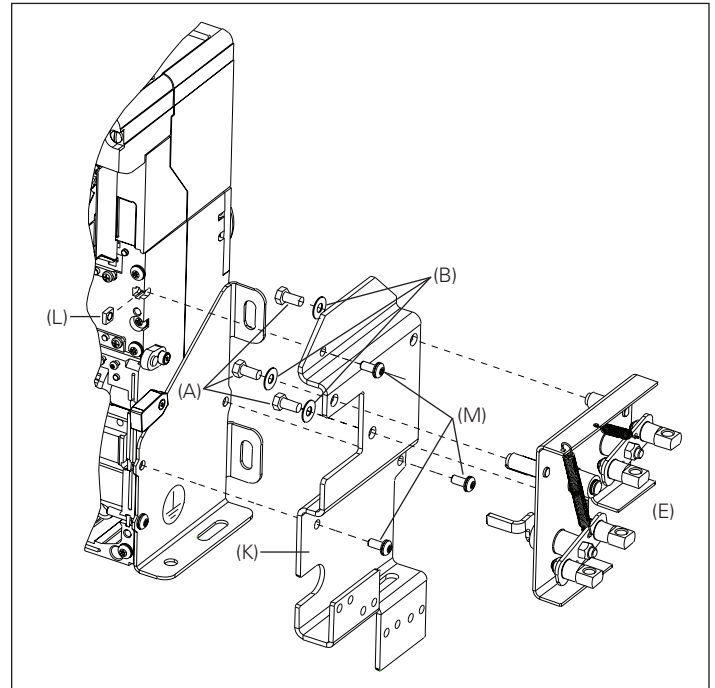

Figure 8. Details for Step 6
Fasten interlock assembly (E) to interlock mounting plate (K) using three M6 x 12 mm hex bolts (A) and lock washers (B) as shown in Figure 8. Torque to 4,5–5,6 N·m (40–50 in-lb). Then fasten interlock mounting plate (K) with attached interlock assembly to the right side of the breaker using three M5 x 12 mm screws (M) and one M5 square nut (L) as shown in Figure 8. Torque to 7,3–9,6 N·m (65–85 in-lb). Ensure that once attached to the breaker, the interlock assembly trip paddle is above the trip pin on the trip bar as shown in Figure 9.